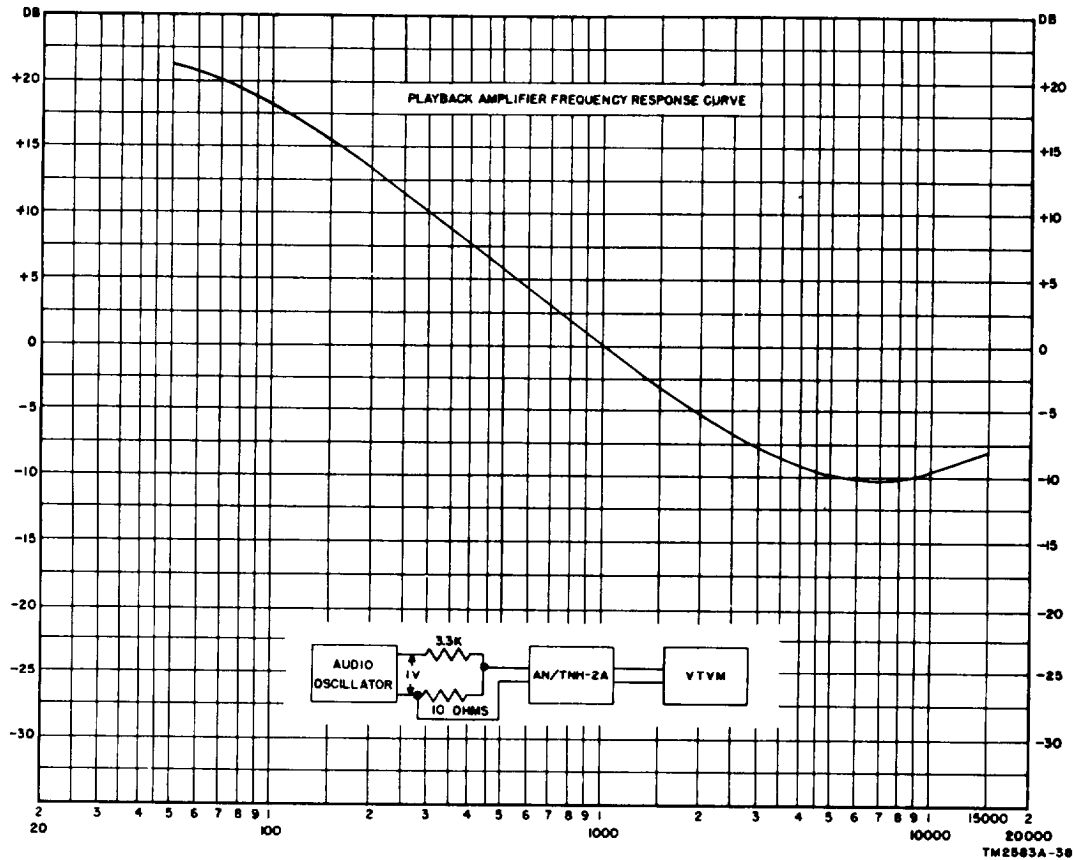

Figure 44. Playback amplifier frequency response curve.
(fig. 44)
- h. Adjust variable resistor R140 (fig. 27) to obtain the frequency response curve indicated in figure 44. Readings may vary ± 2 db. Use the chart below.
- d. Connect an audio oscillator to the voltage divider (fig. 44). Adjust the audio oscillator for a 1-volt output at 1 kc.